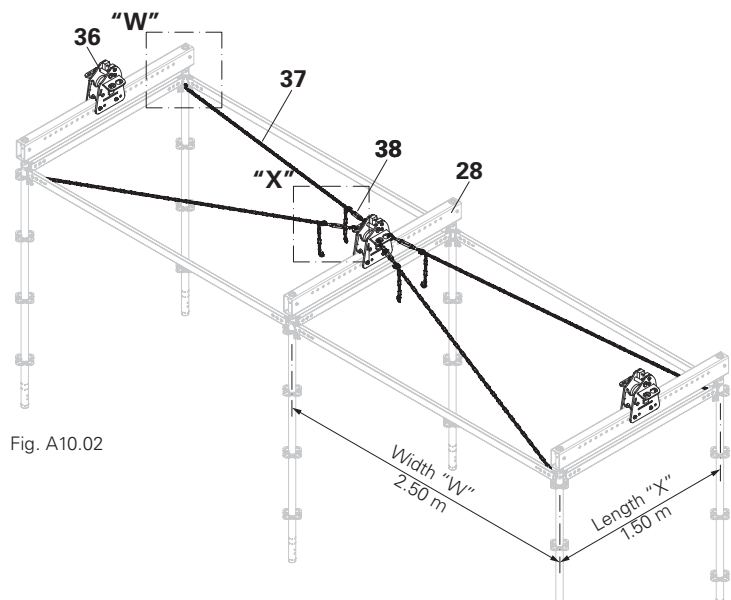

Fig. A10.02
- marries up with that of the load-bearing substructure, variant 1 (Fig. A10.02), or
- The bearer with bracing has been fitted. (Fig. A10.02)